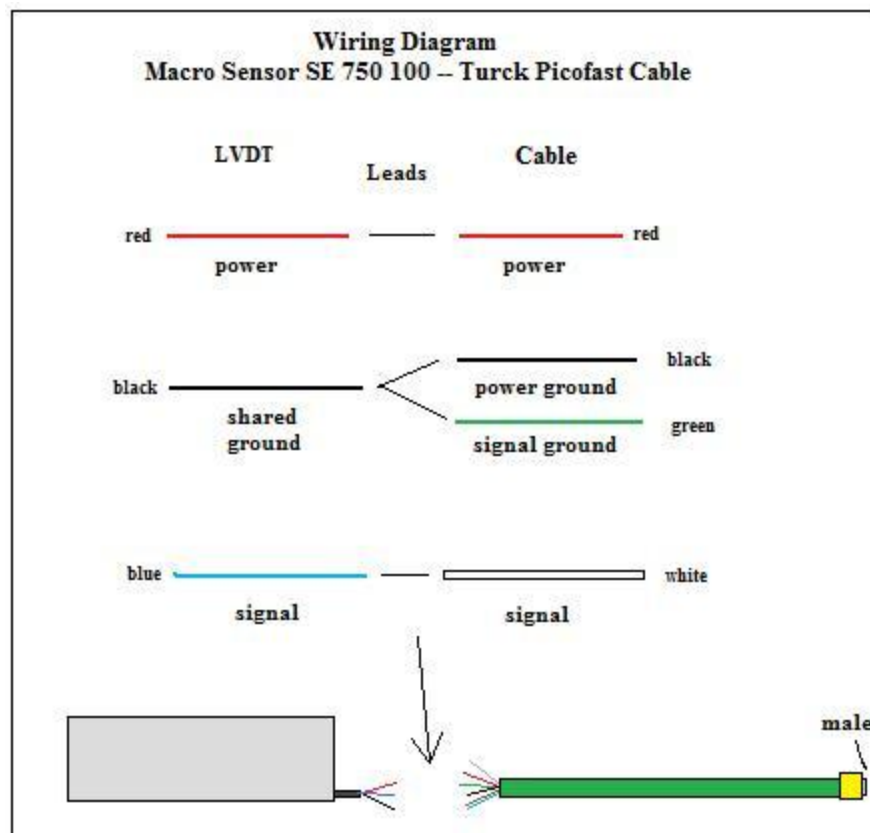

Figure A 15: LVDT Wiring Diagram
1. The sensor's signal, ground, and power leads need to be soldered to a male Turck Picofast cable, with heat shrink tubing for protection as shown in the wiring diagram in Figure A 15. The first step is to cut a short cable near the female connector and use the remaining cable (male end and free end) to connect with the LVDT. The second step is to strip away three to six inches of the exterior shield from the free end to expose the leads. Then, the corresponding leads of both the cable and the LVDT need to be soldered according to the wiring diagram below. Make sure to protect these soldered connections with heat shrink tubing (over both the solder joints and the open wire between the LVDT and the cable)